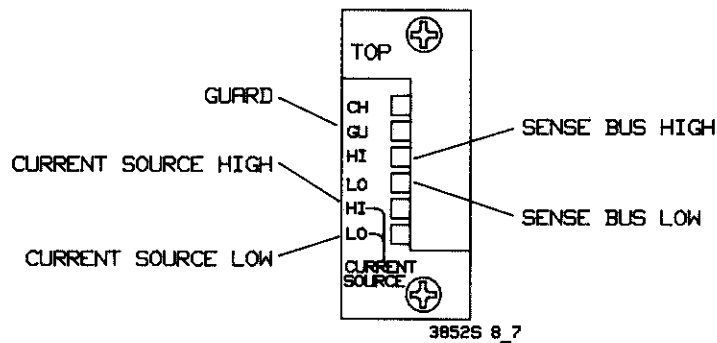
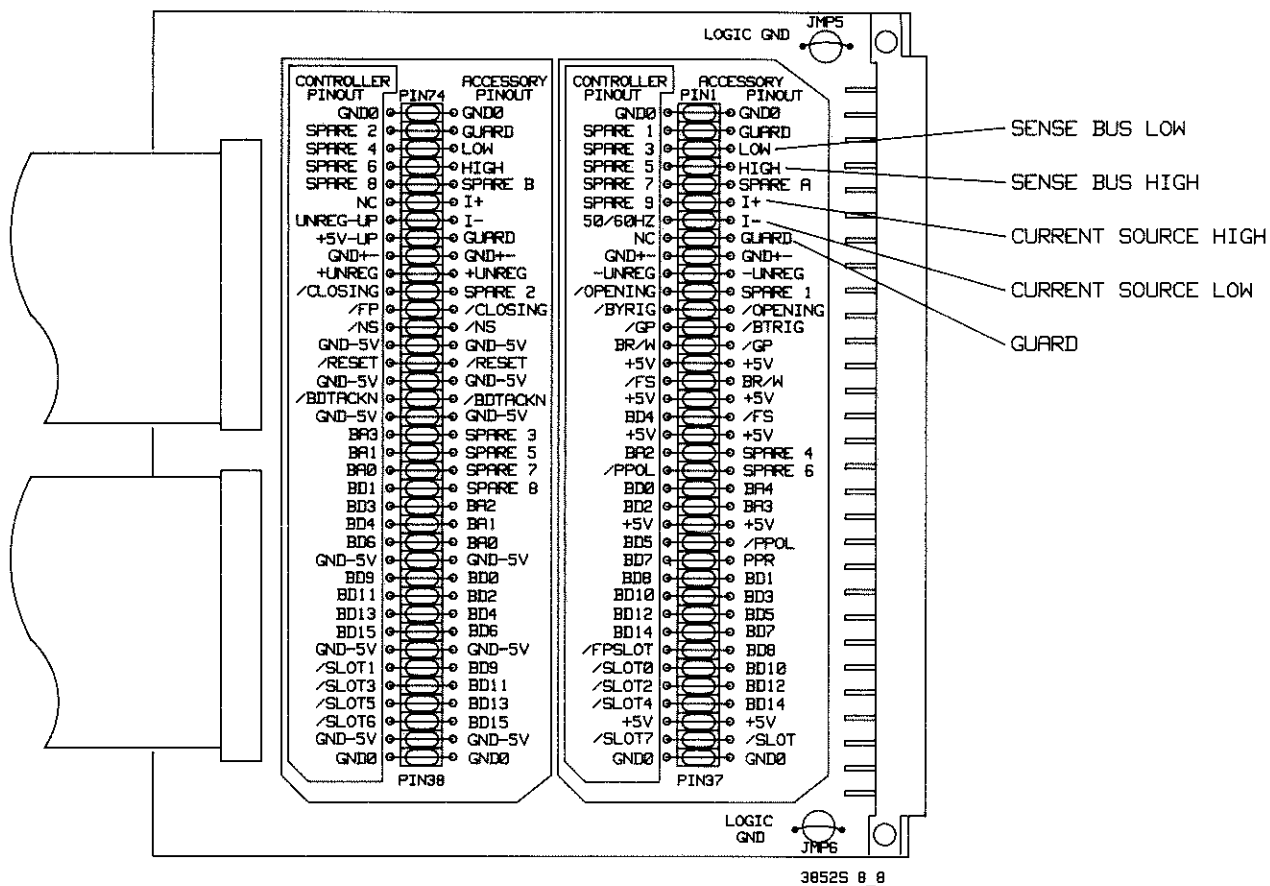

Figure 8-8 Analog Bus Connector
Figure 8-9 HP 44743A Service Module
*The backplane analog bus can be tested in one of three ways: 1) By connecting an external multimeter to the analog bus connector on the rear panel of the power supply module as shown in Figure 8-8, 2) By connecting an external multimeter to the backplane analog bus line jumpers provided on the 44743A service module as shown in Figure 8-9, or 3) By using a plug-in voltmeter (HP 44701A or HP 44702A/B) programmed to measure four-wire ohms from the backplane.*